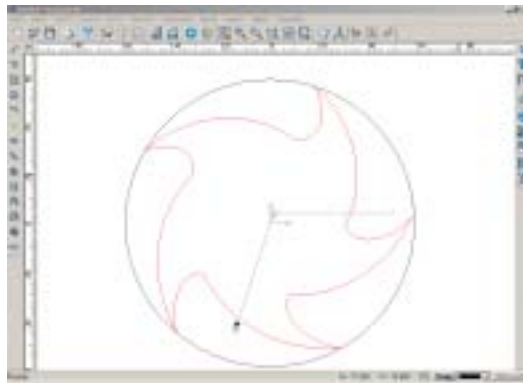

Fig. 5-53
4. When the cursor changes into +, hold and drag the left mouse button to change the object into desired shape. (Fig. 5-53)